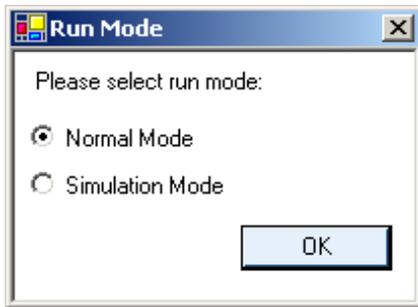

Figure 2-2: Matrix DS2 Run Mode Dialog Box
3. Double-click the **Matrix** shortcut icon or select **Start > Dynex Technologies > Matrix > Matrix** from the Windows *Start* menu program group to present the *Run mode* dialog box (Figure 2-2).